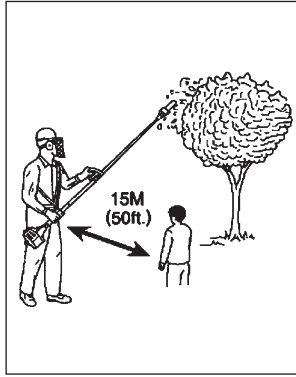

Fig. 1-2
- Spectator and fellow workers must be warned, and children and animals prevented from coming nearer than 15M (50ft.) while the pole trimmer is in use. (Fig.1-2)
- Always wear head protection with full face shield to help protect against falling branches and debris. (Fig.1-2)